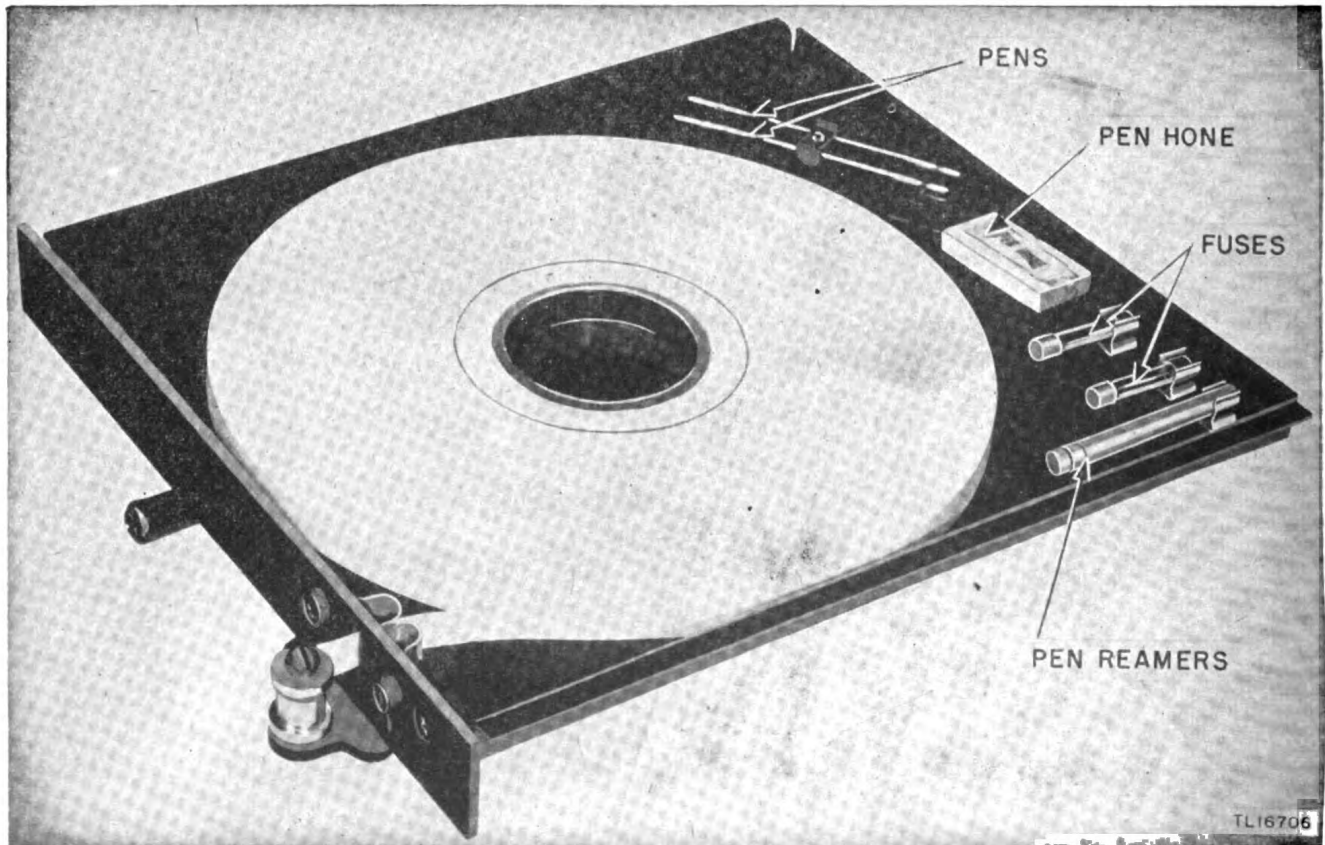
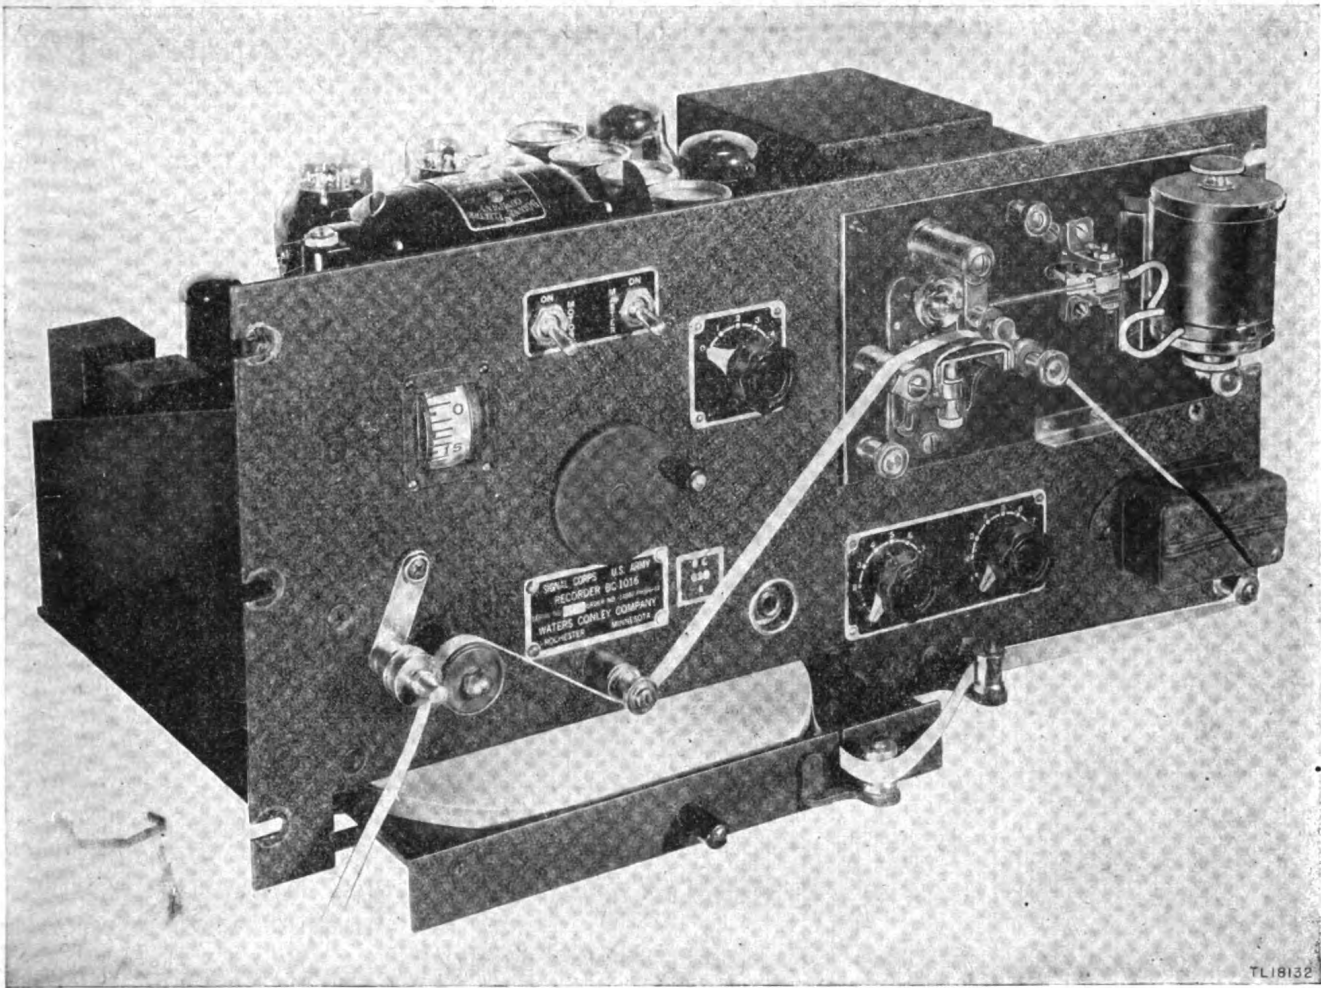

Figure 16. Location of tape in drawer.
Figure 17. Recorder with tape in position for operation.
a. PRELIMINARY PROCEDURE. (1) Place roll of tape in drawer as shown in figure 16 and thread it through tape guide rollers, dust collector, and tape drive roll as shown in figure 17. Adjust tape guide roller (44) so that tape is centered on anvil.
(2) Adjust pen stopscrews for pen swing of about $\frac{3}{16}$ inch. Fill ink cup about $\frac{2}{3}$ full. Adjust anvil so pen just touches tape.
(3) Check value of fuse. For operation on 117–170 volts, a 3-ampere fuse is used; for 210–240 volts, a $1\frac{1}{2}$ -ampere fuse is used. Check a-c input switch (188) for correct operational voltage.
(4) Connect a signal source. The most reliable test of recorder operation is obtained by recording an actual continuous-wave (c-w) signal. Use a receiver such as Radio Receiver BC-312-() or BC-342-() and select a code transmitting at least 250 words per minute. Output of receiver should be at least 5 volts for recorder operating test. See TM 11-441 if additional operating information is required.